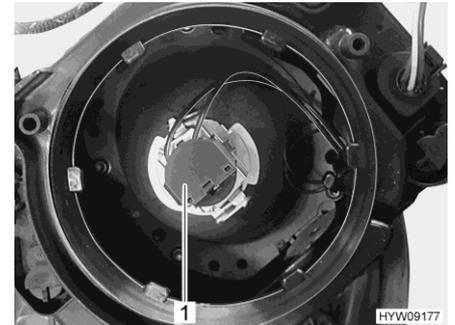

Fig. 229 Bulb (low beam/main beam)
- Turn the holder (Fig. 229,1) with the lamp in an anticlockwise direction and take it out of the lamp housing.
- Insert the holder (Fig. 229,1) with bulb into the lamp housing and tighten in a clockwise direction. The holder engages audibly.